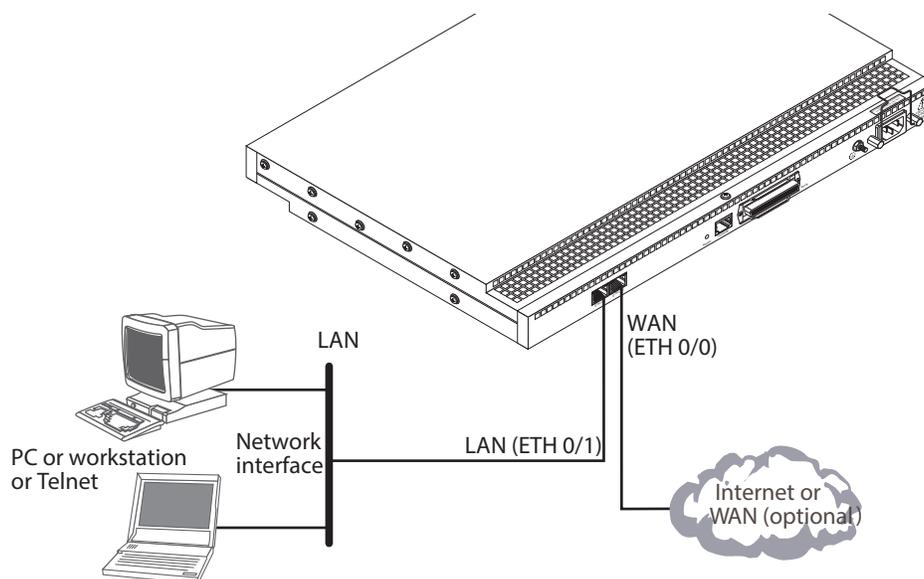

Figure 15. Connecting the SmartNode to the network
2. **Connecting the SmartNode to the network** (see figure 15). Refer to section “1. Configure IP address” on page 37 for details).